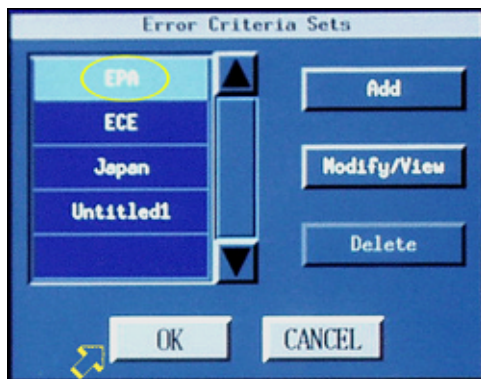

Figure 24
- 131 In the scrolling region of the “Error Criteria Sets” panel, ensure that “EPA” is selected. See the circle in Figure 24. Click on “OK.” See the arrow in Figure 24. The “General Parameters Setup” panel will appear.